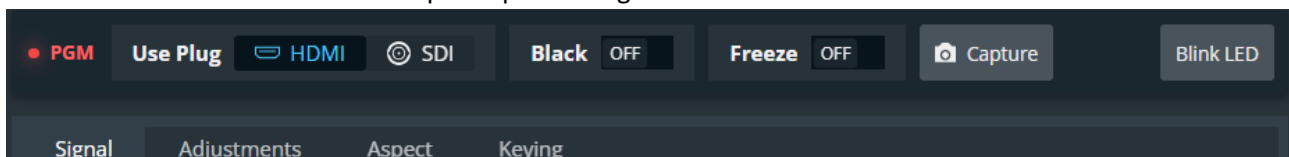

Fig. 18 - Input settings
2. In **Use Plug** on top of the Input settings, click the plug to use for the selected input (see *Fig. 18 - Input settings* above).